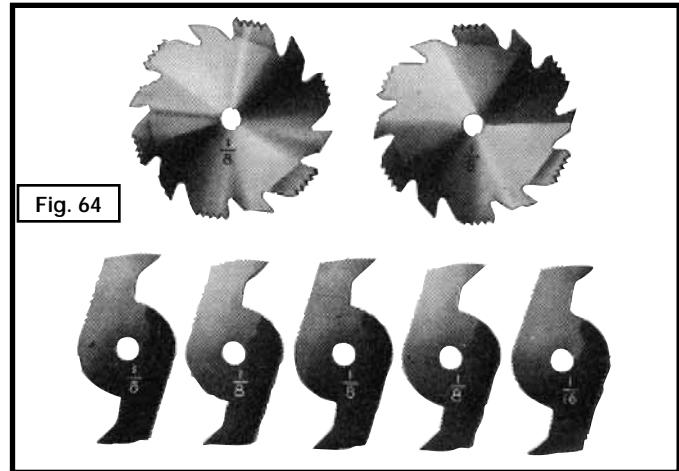

Fig. 64
Add a wood facing (A) Fig. 64 to one or both sides of the rip fence when you perform special operations (moulding cutterhead, etc.). Depending on the fence, attach the wood facing to the fence either with wood screws through holes drilled in the fence, or with two clamps. For most work, 3/4" stock is suitable, although an occasional job may require 1" facing.